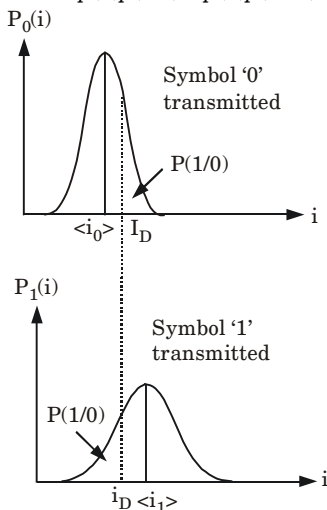

Fig. 24. Probability distributions of the photocurrent for the two transmitted symbols and selection of the decision thresholds.
- Fig. 24 shows the probability distributions of the photocurrent for the two transmitted symbols.